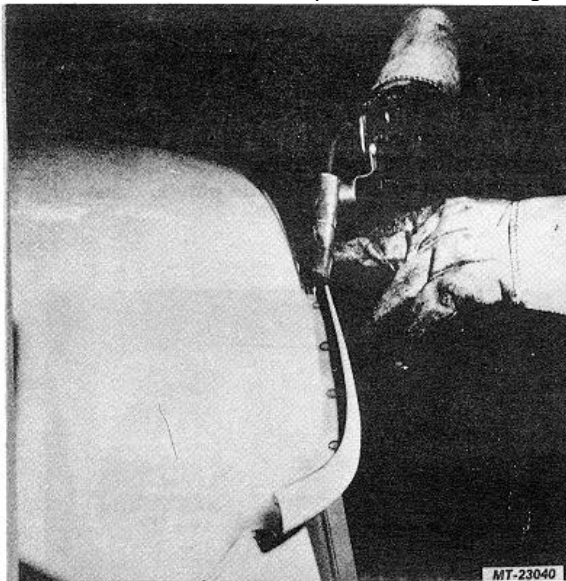

Fig. 51. Fastening Roof Panel To New Side Panel
5. Clamp outer roof panel to drip moulding of new side panel assembly and plug weld roof panel to moulding (Fig. 51).